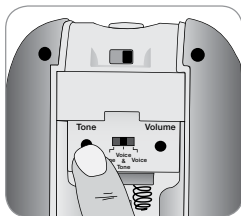

Fig. 5
3. Press TONE button (Fig. 5) to scroll through the tone selections.
5. Each time you press the button, tone will change and a two (2) second sample plays. The last sample heard is the tone utilized for the alarm when the sensor is activated, depending on which monitoring mode is selected.